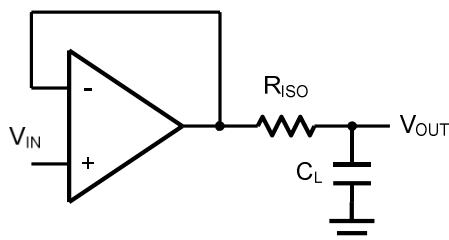
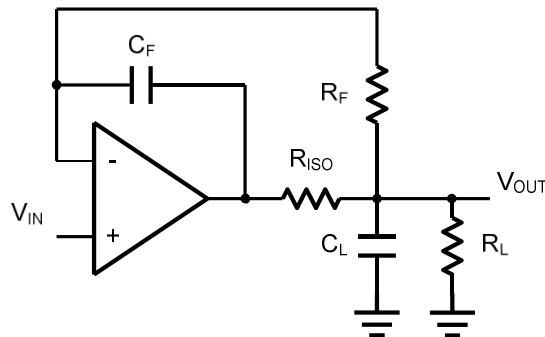

Figure 2. Indirectly Driving a Capacitive Load Using Isolation Resistor
Figure 3. Indirectly Driving a Capacitive Load with DC Accuracy
The HGV855x family is optimized for bandwidth and speed, not for driving capacitive loads. Output capacitance will create a pole in the amplifier's feedback path, leading to excessive peaking and potential oscillation. If dealing with load capacitance is a requirement of the application, the two strategies to consider are (1) using a small resistor in series with the amplifier's output and the load capacitance and (2) reducing the bandwidth of the amplifier's feedback loop by increasing the overall noise gain. Figure 2. shows a unity gain follower using the series resistor strategy. The resistor isolates the output from the capacitance and, more importantly, creates a zero in the feedback path that compensates for the pole created by the output capacitance.
The circuit in Figure 3 is an improvement to the one in Figure 2. RF provides the DC accuracy by feed-forward the V_{IN} to R_L . C_F and R_{ISO} serve to counteract the loss of phase margin by feeding the high frequency component of the output signal back to the amplifier's inverting input, thereby preserving the phase margin in the overall feedback loop.